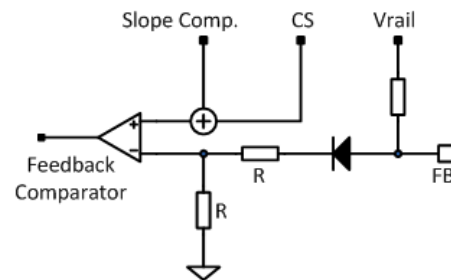

Figure 34. Feedback Pin Internal Behavior Circuit
The Feedback (FB) pin is used for voltage feedback looping. The feedback signal is provided from the secondary-side shunt regulator (TL431) and transfer through the opto-coupler to FB pin of AOZ7543. There is a pull high resistor which is built-in the AOZ7543, as shown in Figure 34. The gain to PWM comparator is 0.5V/V, and with one diode offset. The gain of feedback loop will be decreased due to the large pull high resistor. The design of the feedback compensation circuit should be given extra attention.